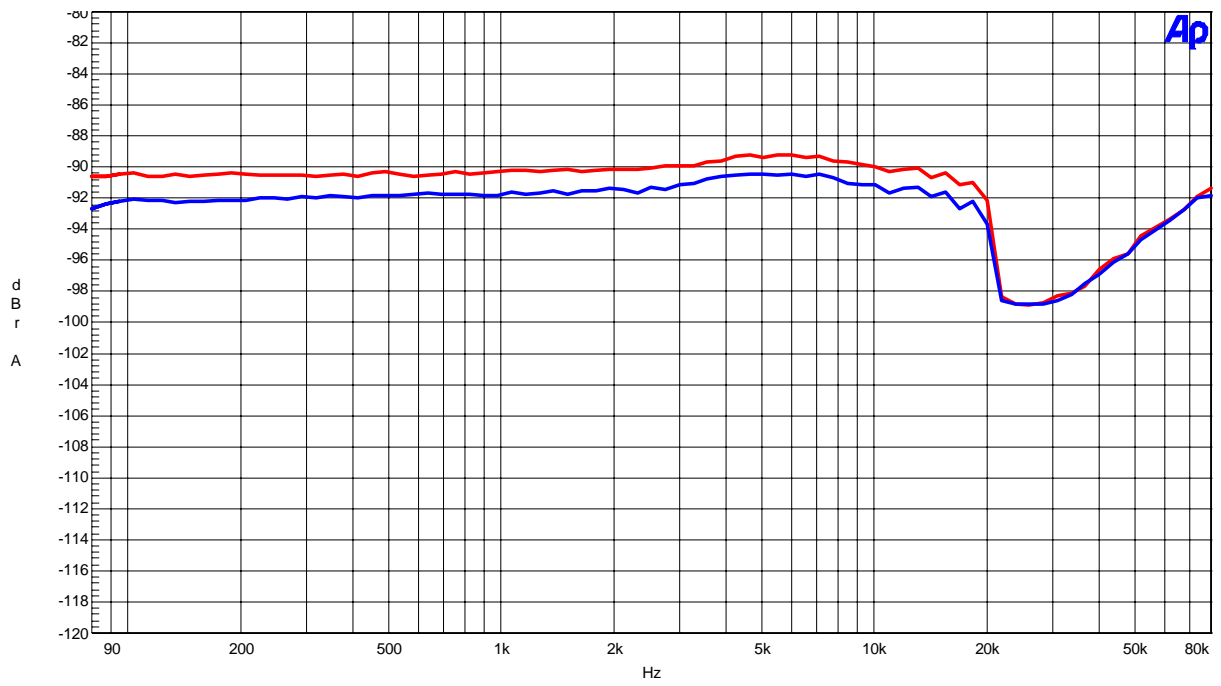

Figure 33. THD+N vs Input Frequency (Input Level=0dBFS)
- Figure 33. THD+N vs f_{in} (Input Level=0dBFS)